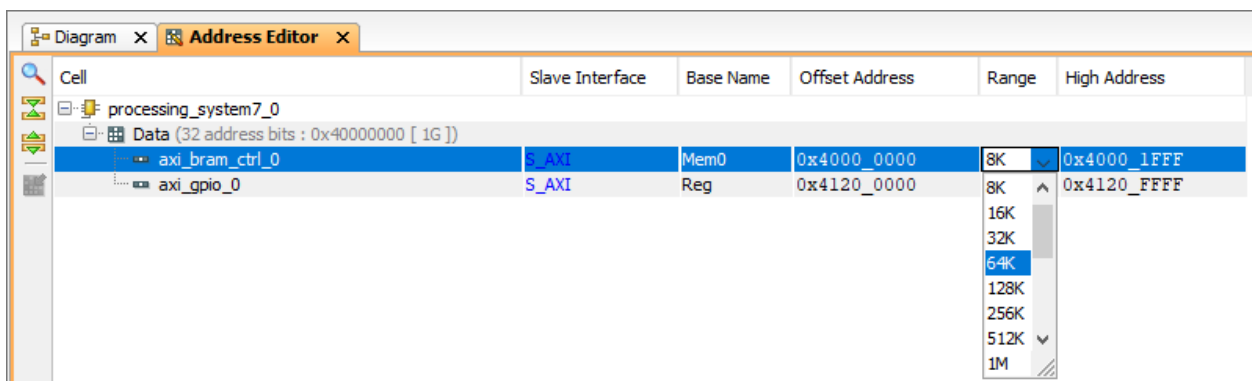

Figure 16: Setting AXI BRAM Controller to 64K range.
2. Change the range of the AXI BRAM Controller to 64K, as shown in Figure 16.